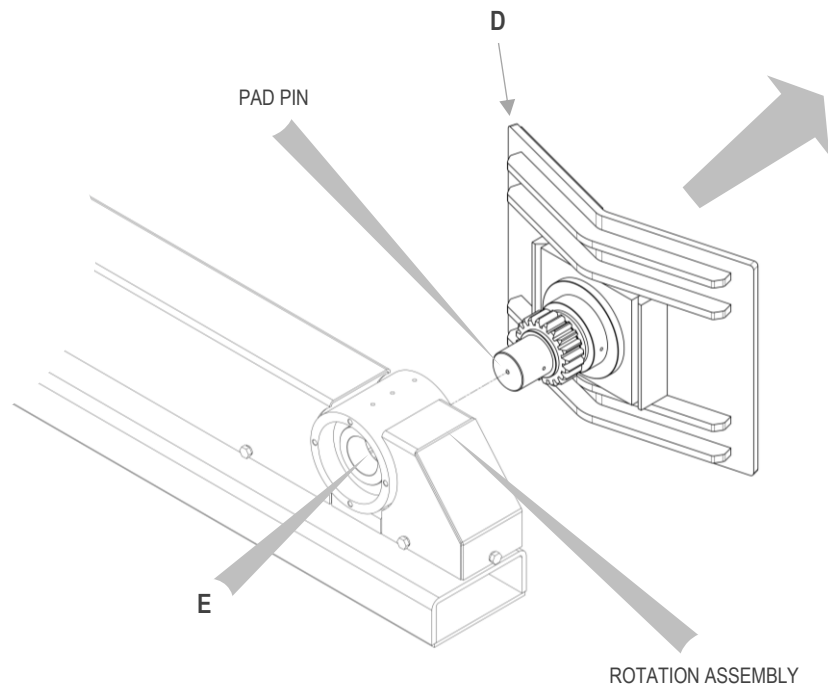

Figure 42
4. Remove pad **D** by extracting it from the front as indicated in Figure 42. If there is any difficulty in removing the pad, use a rubber mallet and a nylon rod with a smaller diameter than the pad pin to hammer in on side **E** as shown in Figure 42